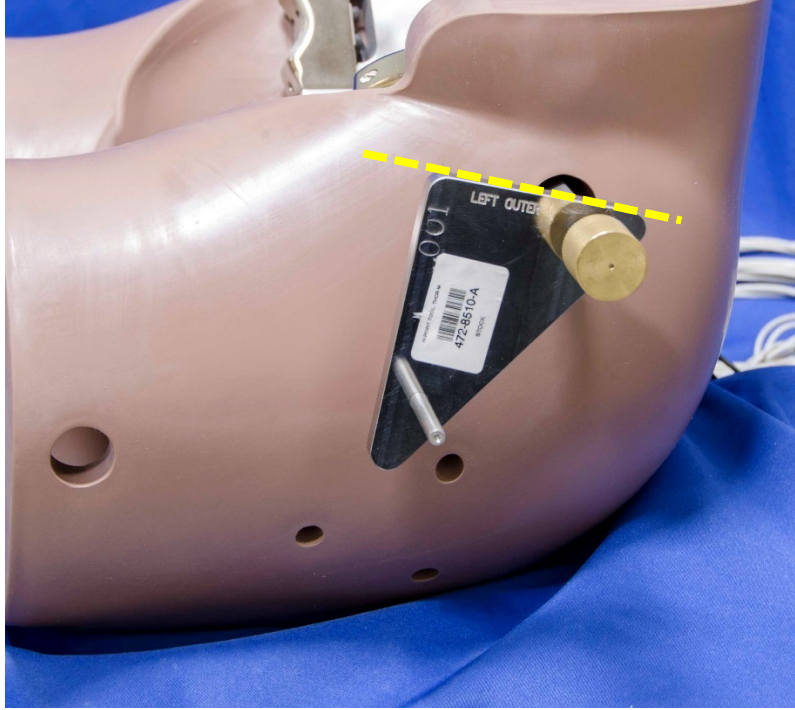

Figure 2-16. Top edge of H-Point tool is parallel to pelvis angle
- 2.4.2.4 With the pin assembly fully unscrewed, insert the expander end of the H-point tool into the pelvis H-point opening until the collar above the expander is fully seated internally against the pelvis. Turn the pin assembly clockwise until the expander engages firmly with the pelvis. Note that the top edge of the H-point tool is parallel to the pelvis angle (Figure 2-16).
The adjustment of the dummy's posture is largely dependent upon the specific positioning requirements of the test lab and the test series being performed. The positioning of the dummy normally begins by marking the location of the H-Point and moving this point to the desired location in the testing environment. When installed into the pelvis, the top surface of the gage plate is parallel with the measurement plane (Figure 2-16) of the pelvis tilt sensor. The operation and function of the tilt sensors is explained in each assembly which includes a tilt sensor.